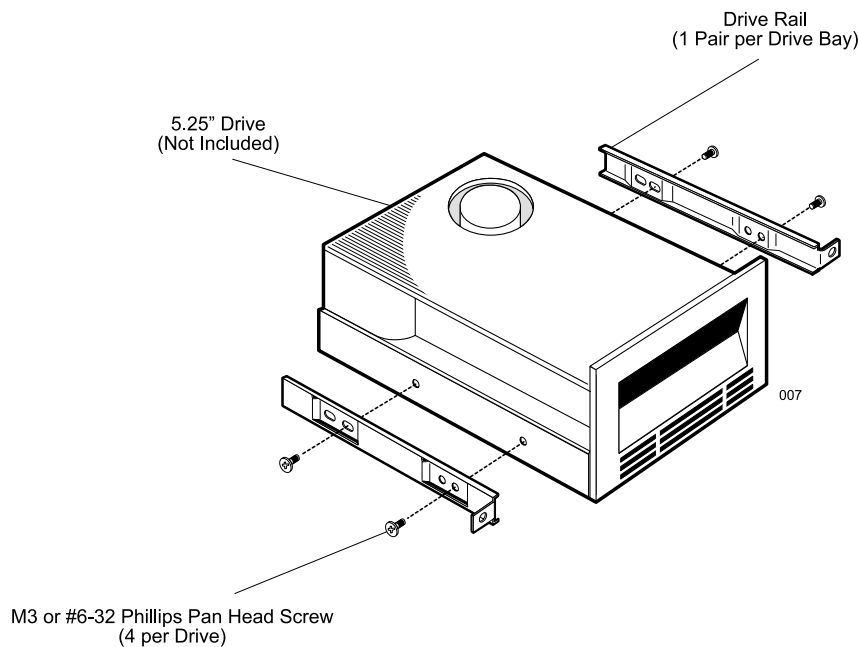

Figure 7: Attaching the Drive Rails to a Typical Full-Height 5.25" Drive
4. Drive Rails- Attach the drive rails to each side of the drive with the four (4) screws provided; screw size (either M3 or #6-32) will depend on specific drive (Figures 7 and 8). Drive mounting holes vary with each manufacturer. (Refer to the drive manufacturer's documentation for specific drive information).